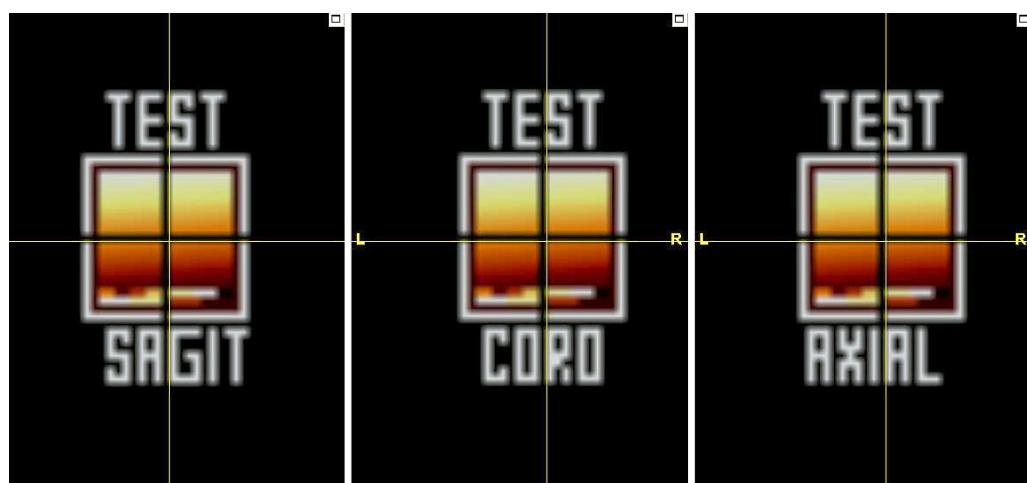
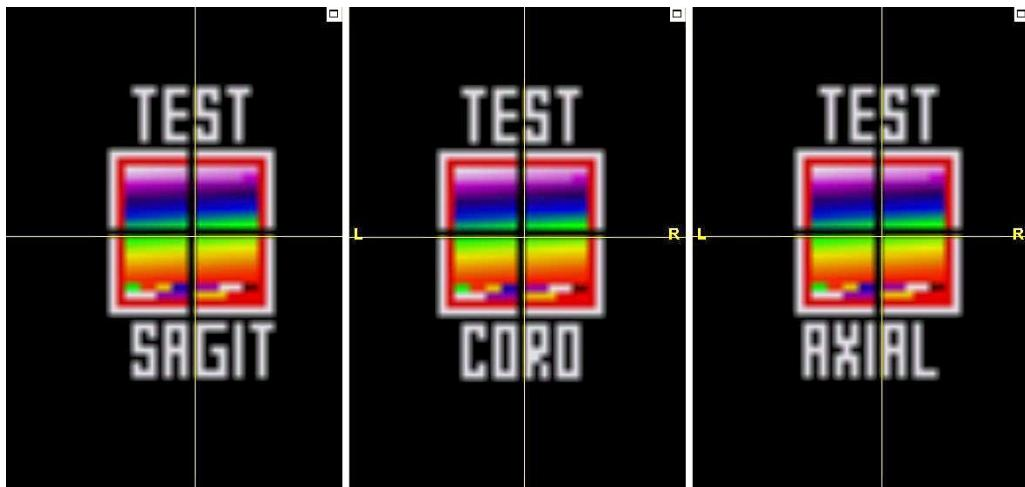

Fig. 129. Color scale test icons: Heat colormap
Fig. 130. Color scale test icons: Rainbow colormap
The color scale test icon visualizes all color indexes between 0-32767 written in the DICOM overlay image file. The color scale visualization in the test icon is different for each selected colormap. Figure 129 and Figure 130 illustrate the test icons for Heat colormap and Rainbow colormap.
5. Check that the color scale test icon is correctly displayed (the appearance should be as shown in Figure 129 and Figure 130):
- c) Check that the color scaling is contiguous from up to down. Check that the color scaling matches the colors shown in Figure 129 and Figure 130; depending on the selected colormap. Check that there are no black stripes inbetween the color scale.
After you have located the color scale test icon, adjust the color settings so that the test icons are displayed correctly (as Figure 129 and Figure 130).